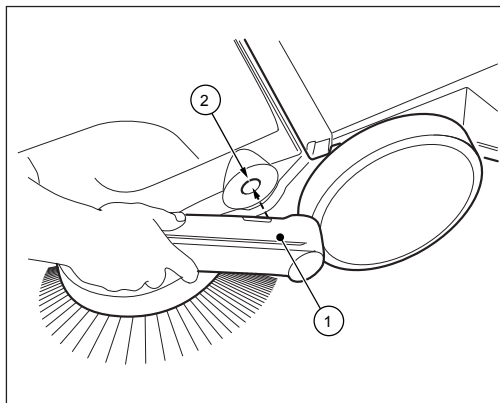

Fig. 7: Handle fitting assembly
1. Position the handle fittings (1) as shown in Figure 7.
2. Insert the handle fittings in this position into the intended receptacle (2) of the sweeper. It may be necessary to slightly hit the handle fittings in this step.